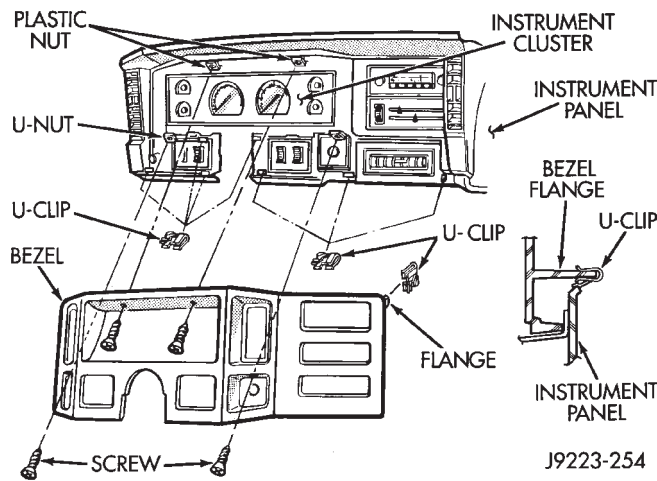

Fig. 1 Instrument Cluster Bezel Removal/Installation
(1) Remove the bezel retaining screws (Fig. 1).